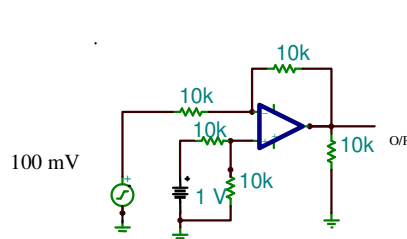

Fig. 4f Subtraction circuit (one ac and one dc signal)
7. Make the circuit as in Fig 4f.. Choose one input signal as ac signal (sinusoidal $\sim 100mV$, $\sim 1KHz$) and other as 1V dc. Record the output signal amplitude (**take care of base line!**)